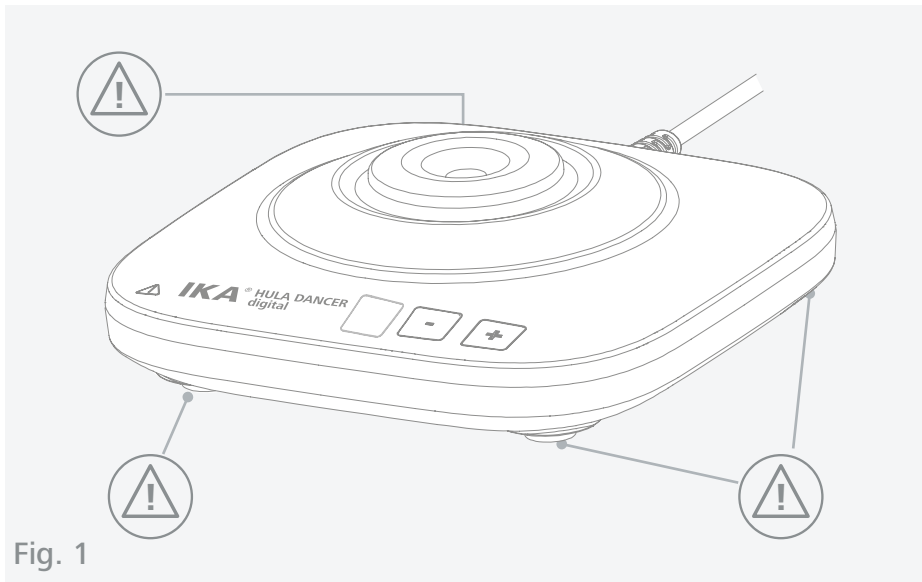

Fig. 1
- › Please pay attention to the dangerous parts of the equipment in Fig. 1.